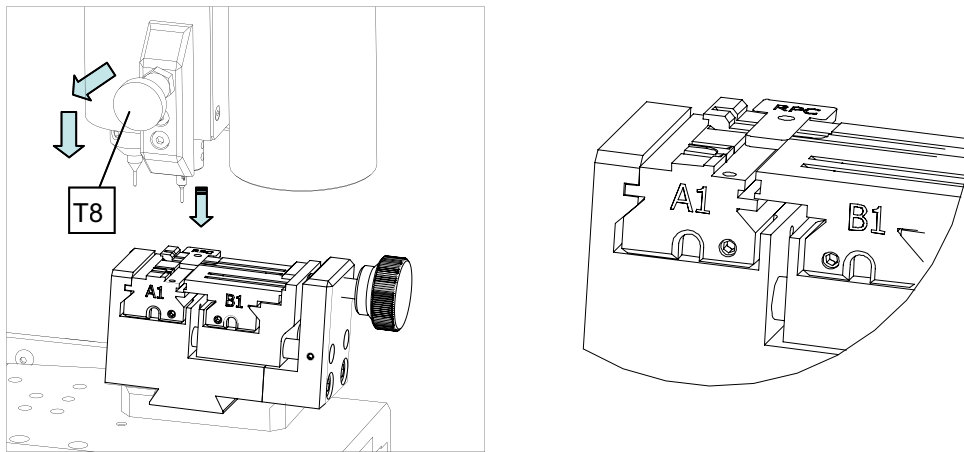

FIG. 25
- 2) Position the RPC adjustment plate in the clamp, from the back side of the clamp (Fig.25).